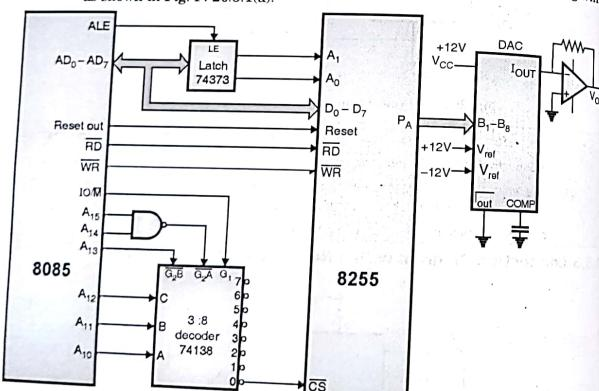

Fig. P. 20.5.1(a) : DAC interfacing using 8255
Step 2 : The 8255 is interfaced to 8085 in I/O mapped I/O the complete interfacing will be as shown in Fig. P. 20.5.1(a).
To generate square wave we require two levels of inputs 00 H and F0 H. This is achieved by using output data 00 H wait for some time, then output data F0 H wait for some time. Program (For flowchart refer Fig. P. 20.5.1(b)).